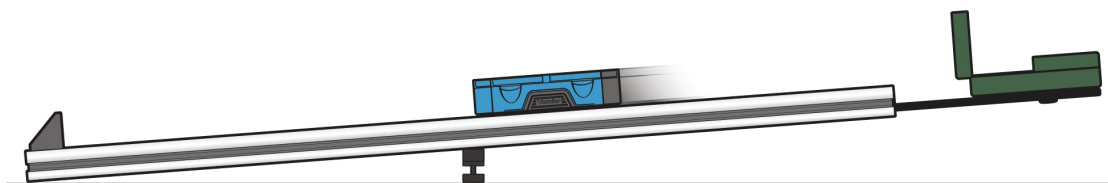

Figure 1
2. Confirm that your Dynamics Track, Adjustable End Stop, and Motion Detector Bracket are assembled as shown in Figure 1. Adjust the head of the motion detector so that it is pointing straight down the track, or angled up just a little.